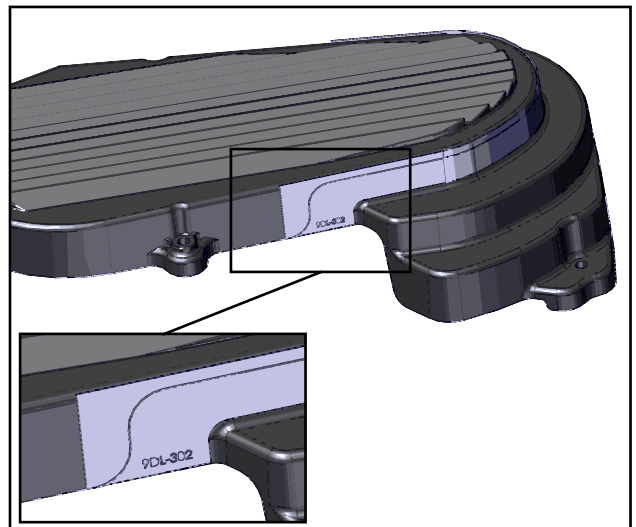

Fig. 3.13 (Wrap Decal Around to Top)
- 3.13 Wrap the decal around the side surface of the belt cover so that it ends at the top as shown in figure 3.13.